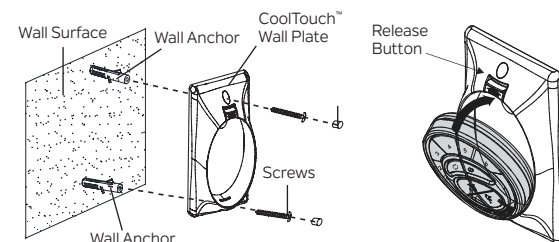

Fig. 21B
Step 2. Use the drywall anchors and screws provided to finish the installation. (Fig. 21B)